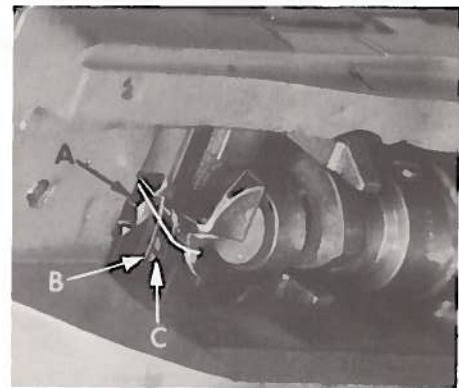

Fig. 20
When the cutting knife (A, Fig. 20) begins its cutting stroke, the thread finger guide (B) should be set to enter the thread triangle formed by the spreading of the threads as they slide up the wider portion of the looper point. Adjustment can be made by loosening screws (C), reposition thread finger guide as required and re-tighten screws.